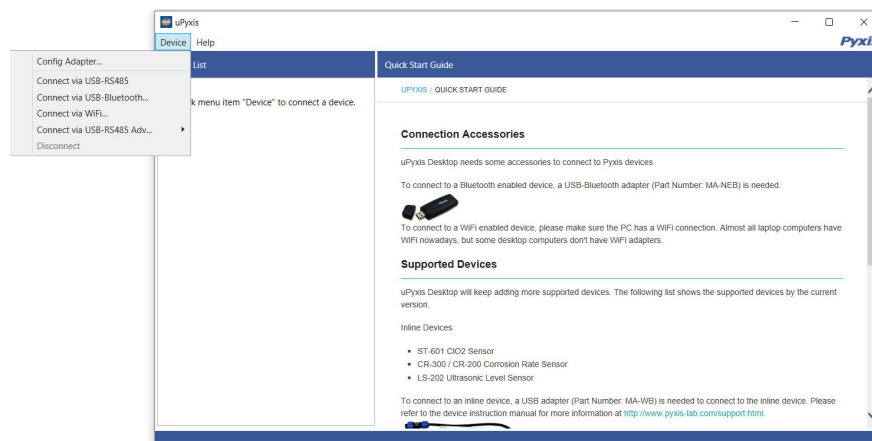

Figure 16.
3. On uPyxis® Desktop App, click Device→ **Connect via USB-Bluetooth** (Figure 16).
4. If the connection is successful, the LT-73X Series and its Serial Number (SN) will be displayed in the left pane of the uPyxis® window.